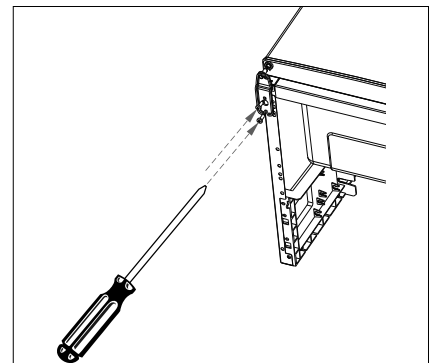

Fig. 12
- ▶ Do not tighten the screws completely yet so that you can still align the freezer door (4). Tighten the screws firmly only when it is possible to close the freezer door (4) evenly. (Fig. 12)